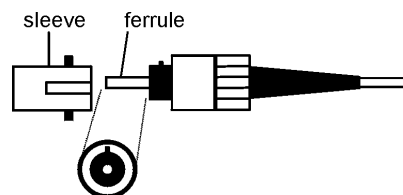

Figure 3: Connector Cleaning (connector type can vary)
2. Blow the sleeve with filtered compressed air (Figure 3).